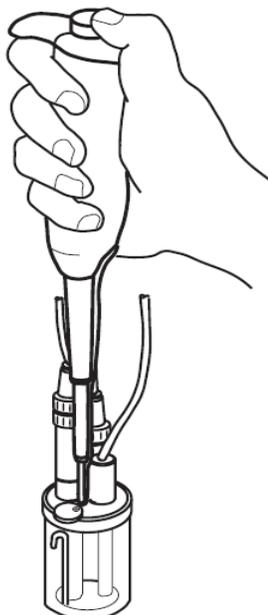

Figure 24: Pipet Dispensing
- Be sure to hold the pipet completely vertical while dispensing. Do not inject the standard on the side of the flow cell, as a film may be retained on the inside of the wall, resulting in errors in precision of calibration. Refer to Figure 24.